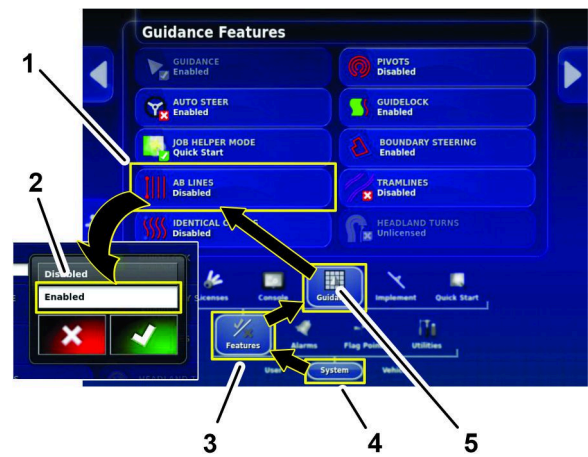

Figure 157
2. Press the AB LINES icon (Figure 157).
3. In the dialog box, press the ENABLE icon, and press the confirm icon (Figure 157).
1. Press the SYSTEM icon, FEATURES icon, and the GUIDANCE icon (Figure 157).